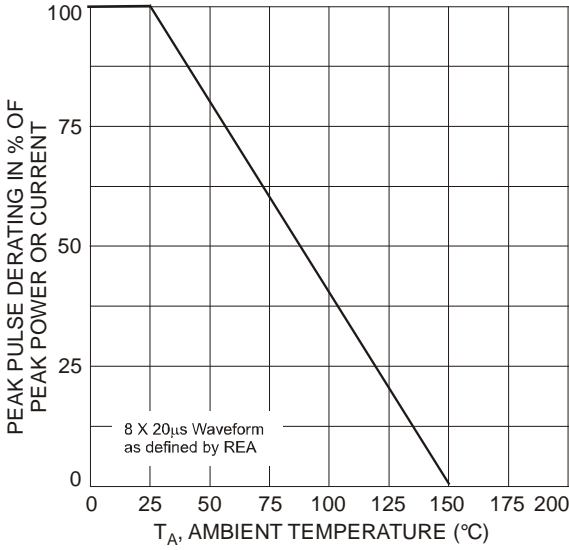
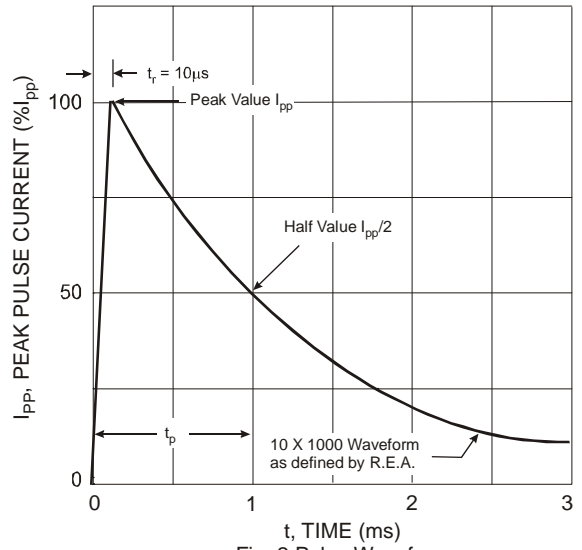
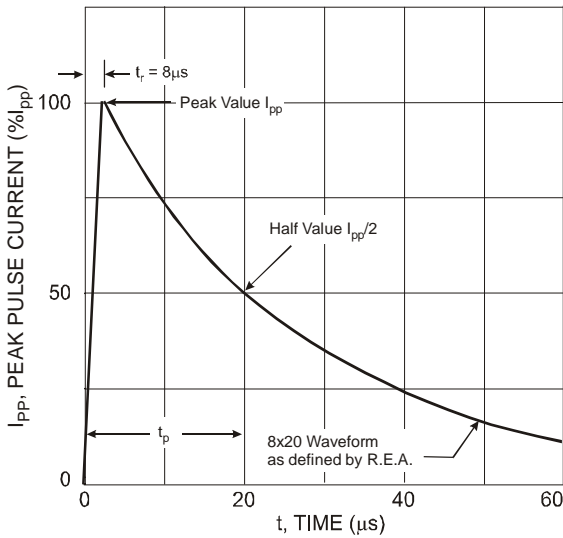

Fig. 1 Pulse Derating Curve
Fig. 2 Pulse Waveform
Fig. 3 Pulse Waveform
5. Non-Repetitive current pulse as shown in figure 2 and derated above T_A = +25°C as per figure 1.
6. Non-Repetitive current pulse as shown in figure 3 and derated above T_A = +25°C as per figure 1.